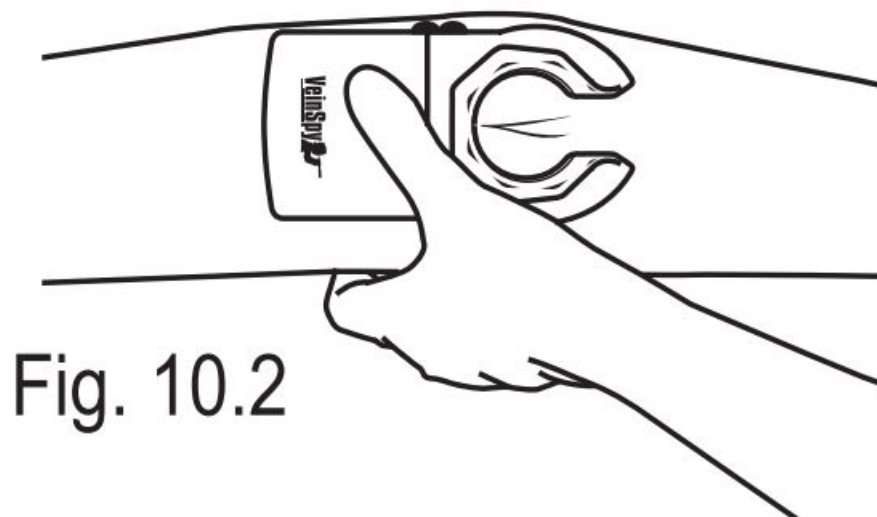

Fig. 10.2
- After visualization of a specific vein as a dark line, move the VeinSpy™ so that needle can be inserted easily through the functional open area of the device. (See Fig. 10.2)